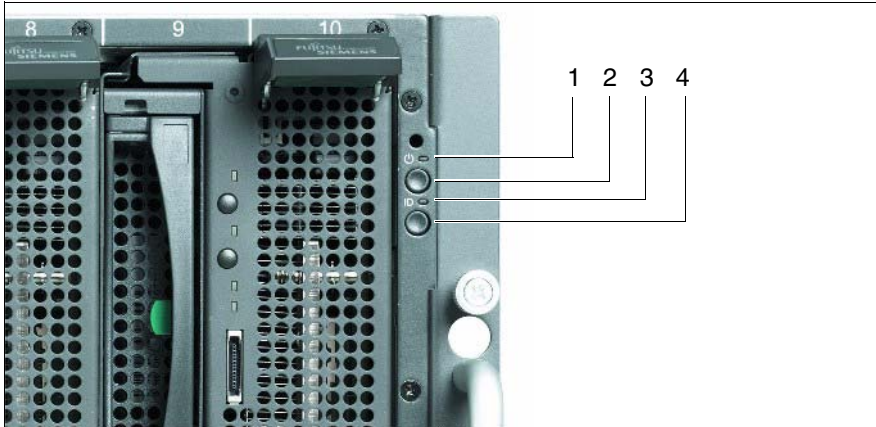

Figure 15: System operating and indicator elements on the front
- ▶ Press the basic unit power ON/OFF button (position 2 in figure 15 on page 50) for 2 seconds. Depending on the BIOS settings, the server blades can be switched on automatically one after another according to the slot numbering (see figure 29 on page 72).
- ▶ For **graceful shutdown** of all server blades, press the system power ON/OFF button (position 2 on figure 15 on page 50) for 4 seconds. The server blades will then be powered OFF.
- ▶ For **hard shutdown** of all server blades, press the system power ON/OFF button (position 2 on figure 15 on page 50) for 10 seconds. The server blades will be powered OFF immediately.